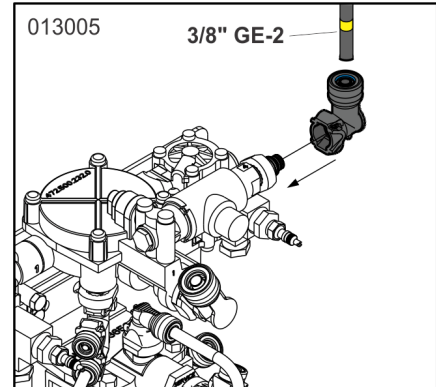

Figure 30
- Connect the L-fitting housing 11410272 from the kit (refer to figure 30).